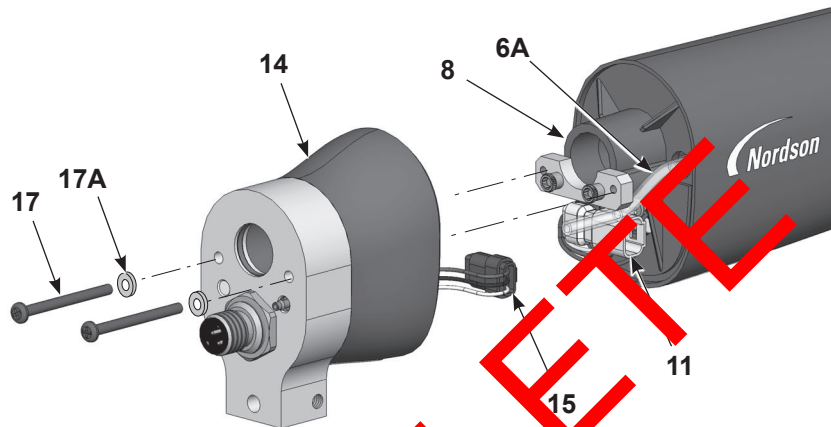
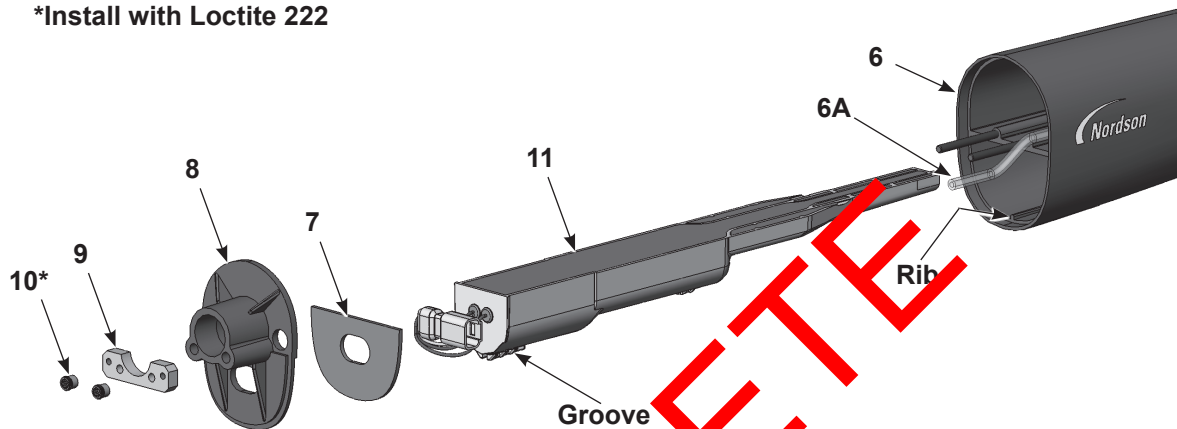

Figure 22 Bar-Mount Gun Disassembly 1 of 3
Figure 23 Bar-Mount Gun Disassembly 2 of 3
4. See Figure 23. With a 1/8-in. hex key, remove the two Allen nuts (10) and screw plate (9) from the bulkhead (8). Then remove the bulkhead from the gun body (6), feeding the power supply harness through the bulkhead.
5. Slide the power supply (11) out of the gun body.
7. The gasket (7) is attached to the bulkhead with pressure sensitive adhesive. If the gasket is damaged, replace it with a new one.
1. See Figure 23. Install the power supply (11) into the gun body (6), making sure the gun body rib fits into the groove on the power supply. Seat the power supply firmly into the gun body.
2. Feed the power supply harness through the bulkhead, then install the bulkhead (8) and screw plate (9) over the gun body studs. Apply Loctite 222 to the Allen nuts (10), then install the nuts on the studs and torque them to 0.45 N•m (64 inch-ounces) with a 1/8-in. hex key.
3. See Figure 22. Connect the receptacle harness (15) to the power supply harness (11). Tuck the harness connectors (11, 15) into the rear body assembly in the positions shown.
4. Connect the clear filter tubing (6A) to the barbed fitting on the inside of the rear body assembly (14). Feed any extra clear air tubing into the gun body, then install the rear body assembly onto the bulkhead with the screws (17) and lock washers (17A).